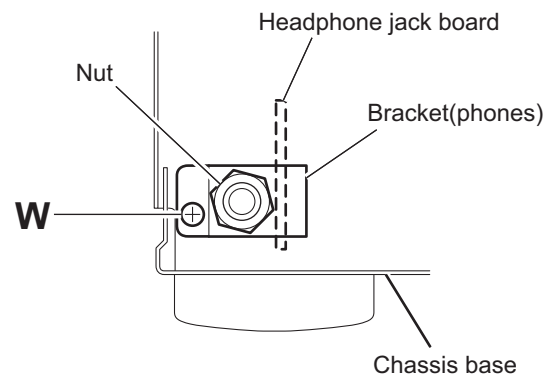

Fig.17
- (2) From the front side of the main body, remove the nut and screw **W** attaching the bracket(phones) to the chassis base. (See Fig.17)